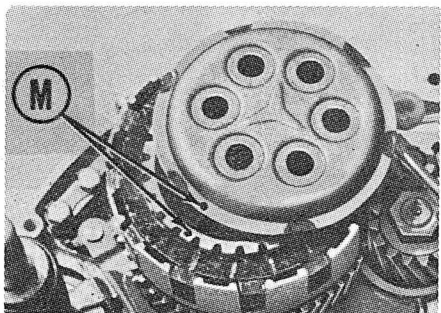

Fig. S2-16—Marks (M) should be aligned when installing the clutch pressure plate.
When reassembling, hole (H) in the spacer (12) should be toward inside as shown. Springs (2) should be threaded into clutch hub (9) until the springs are flush with back (inside) surface of hub. Make sure that marks (M—Fig. S2-16) are aligned when pressure plate is installed.